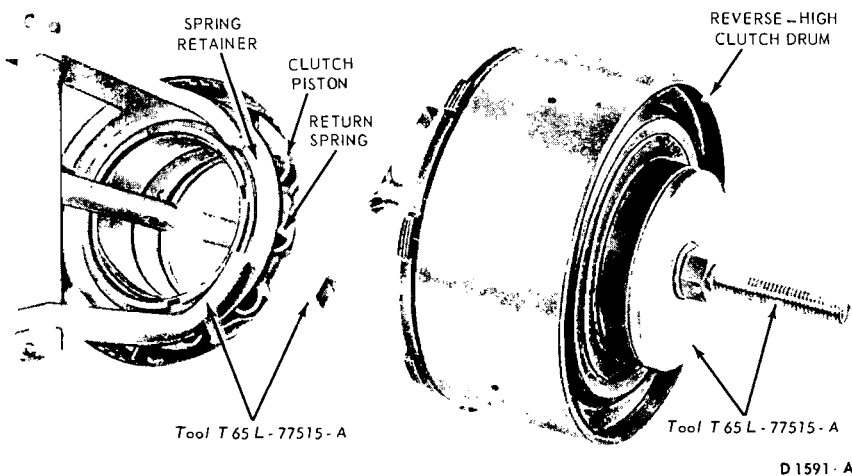

FIG. 82—Removing or Installing Clutch Piston Spring Retainer Snap Ring
3. To remove the piston spring retainer snap ring, place the clutch hub in the arbor press. With the tools shown in Fig. 82, compress the piston return springs and remove the snap ring. When the arbor press ram is released, guide the spring retainer to clear the snap ring groove of the drum.
10. Place the ten clutch piston springs into position on the clutch piston. Place the spring retainer on top of the springs. To install the snap ring, use the tools shown in Fig. 82. As the press ram is moved